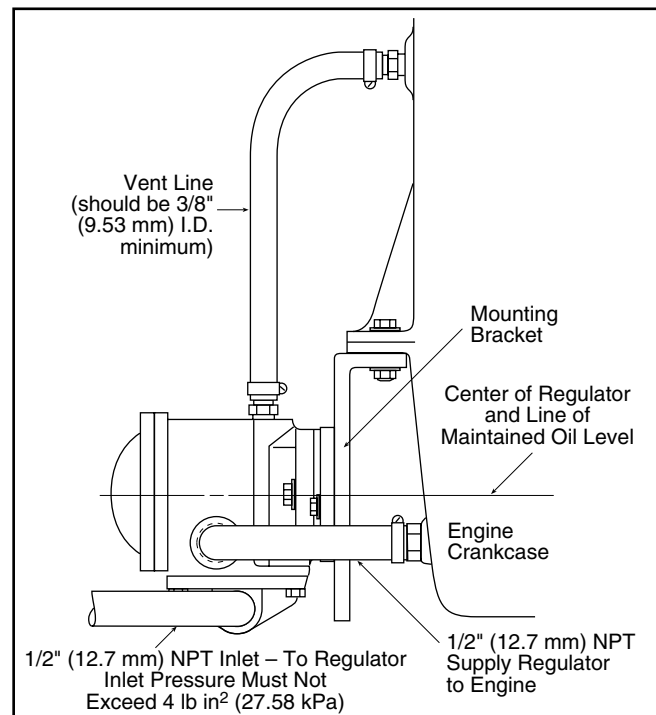

Figure 1 – Installing the Regulator
7. A vent line must be fitted. Connect a vent line, 3/8" (9.53 mm) I.D. minimum, from the port on the top of the regulator to a port on the engine that is above the oil level – for best performance vent line should be 3/8" (9.53 mm) I.D. minimum. If no port is available below the pistons you can connect to the valve covers (see Figure 1).
8. Connect the engine supply line, 1/2" (12.7 mm) I.D. minimum, from the outlet of the regulator to the auxiliary drain plug or a tee in the existing drain plug (see Figure 1).
9. Connect the regulator supply line, 1/2" (12.7 mm) I.D. minimum, from the reserve oil tank to the regulator inlet (see Figure 1).